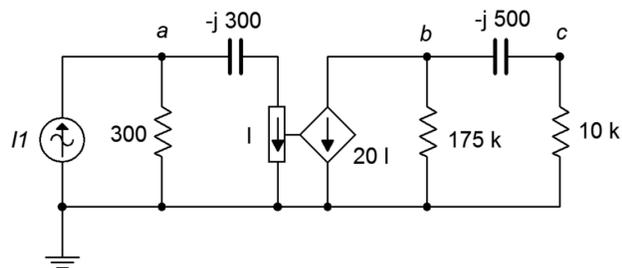

Figure 5.16
31. Determine  $v_b$  in the circuit of Figure 5.16 if the source  $I_1 = 20E-3\angle 0^\circ$ .
32. Determine the current through the 10 kΩ resistor in the circuit of Figure 5.16 if  $I_1 = 10E-3\angle -90^\circ$ .